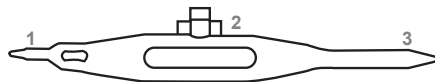
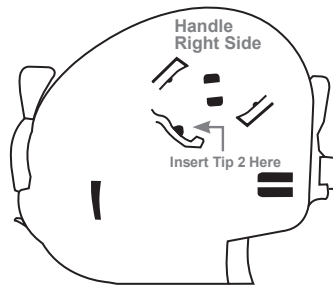
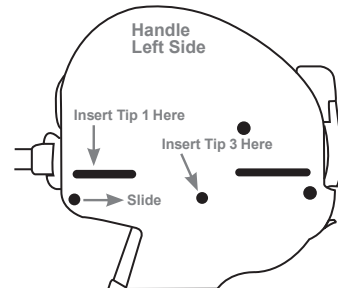

Figure 7
Figure 8
Figure 9
- 6.1 If needle does not retract, insert Tip 2 of Handle Release Tool (Figure 7) into hole on right side of case (Figure 8). Tip 3 should point towards Retraction Lever. While still inserted, turn Handle Release Tool clockwise approximately 45 degrees.
- 7.1 If it is desired to cut the monofilament suture without delivering Urethral End-Piece, Insert Tip 3 of Handle Release Tool (Figure 7) into hole on left side of case (Figure 9).
- 7.2 If the suture is not fully cut in Step 1, insert Tip 1 of Handle Release Tool (Figure 7) into the groove on the front left side of the case and slide the tool from front to back (Figure 9).